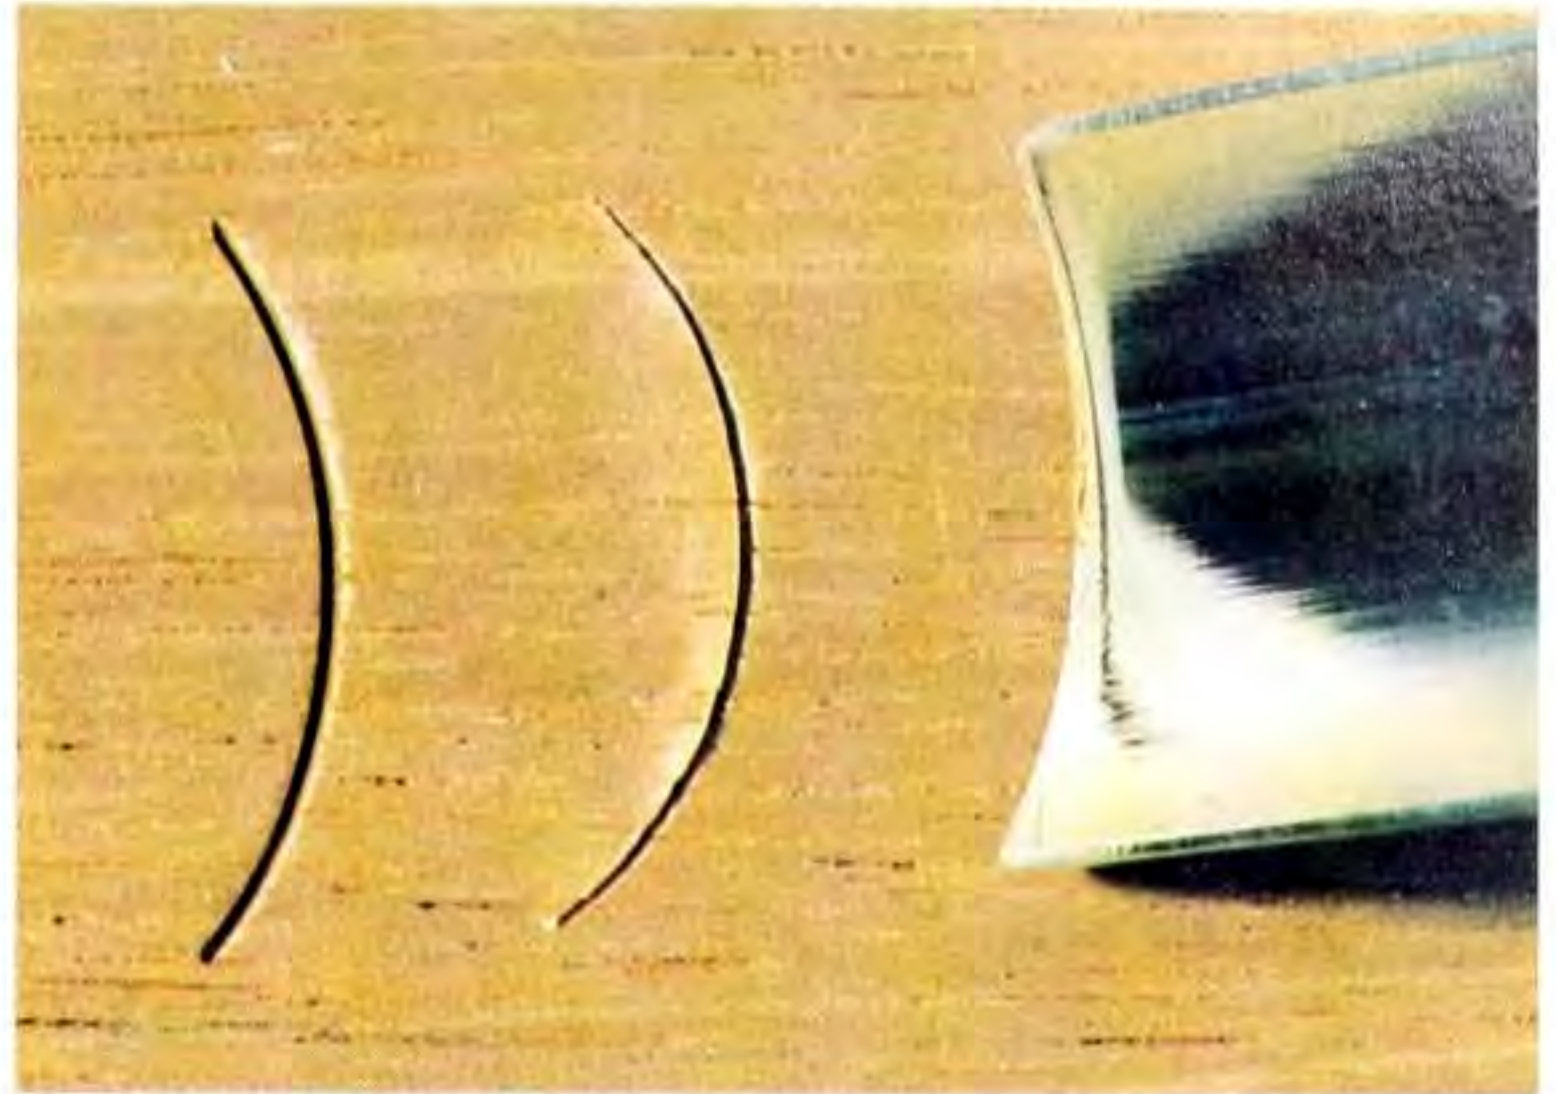

Fig 5.72 You can see that the angled cut on the right is 'quicker' (its radius has been reduced) than the one on the left.
- 4 Make a second cut to the right of the first, this time tilting the gouge 45° to the right. Make a second stab cut, and compare the two cuts (see Fig 5.72).